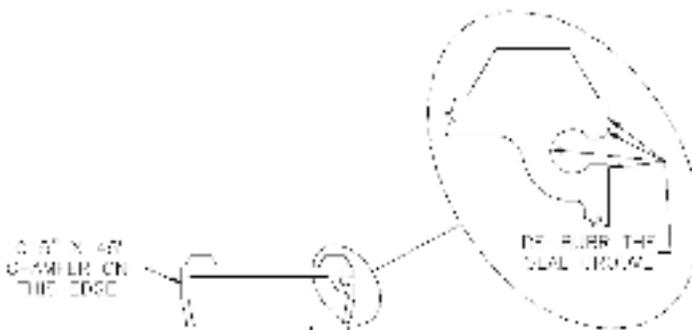

Figure 38
- c. Inspect the ends of the floor slat. De-burr the seal groove. Chamfer the outside edge of the floor slat opposite the seal groove (Figure 38).